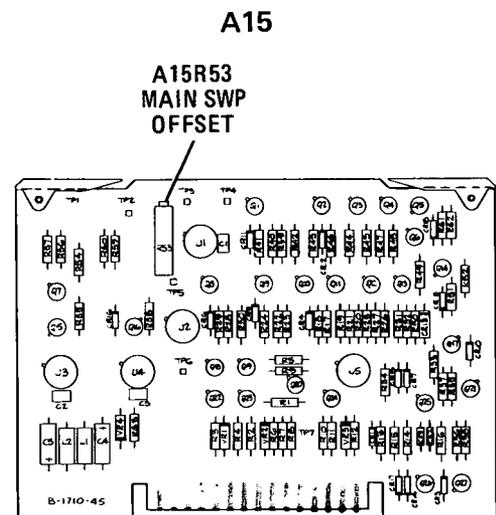

Figure 5-41. Sweep Attenuator Adjustment Location
- e. Switch FREQUENCY SPAN/DIV to 5 MHz and adjust A15R53 MAIN SWP OFFSET (Figure 5-41) to center 100 MHz signal on CRT display.